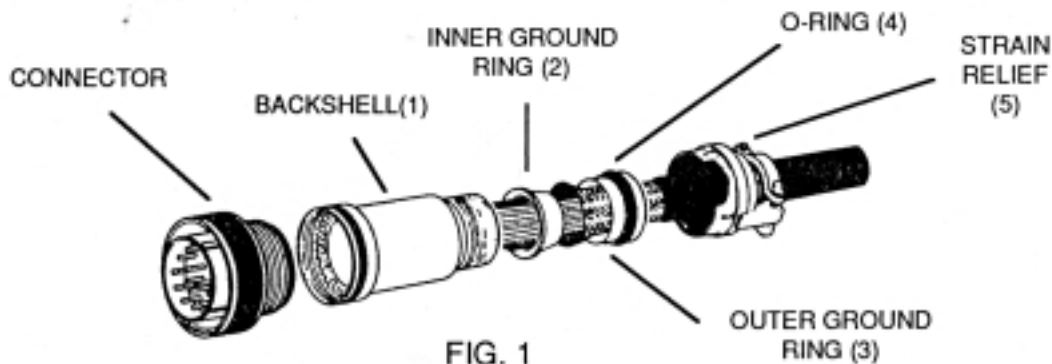

FIG. 1
- A) Disassemble the connector as in figure 1 keeping track of the order that the parts are installed.
- B) Slip the o-ring (4) around the outer ground ring (3), fitting the o-ring (4) into the groove on the ring.
- C) Slide the connector parts onto the cable in the sequence show in figure 1.